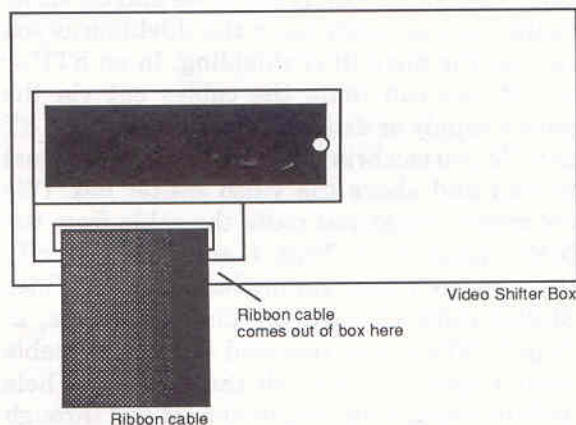

Figure 10 - Ribbon cable out of Video Shifter Box
(4) Place the XTRA-RAM's Video Shifter board into the now empty Video Shifter socket (so that the chip is the same way around as it originally was) on the main ST's circuit board being careful not to bend any of its legs in the process. Make sure that all of the legs are inserted correctly. Press the Video Shifter board down firmly. Bend the left hand twist down so that it is parallel with the main circuit board. Take the ribbon cable out of the box as shown in figure 10 and close the box lid by fastening the right hand twist with the pliers.